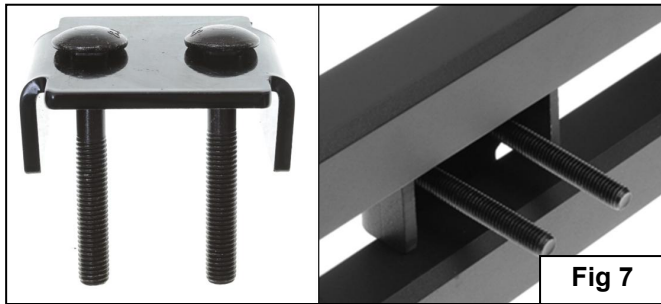
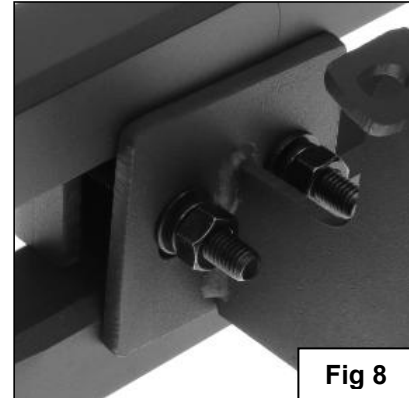

Fig 7
Fig 8
5. Select the Driver Side Bar. Slip (2) M10X1.5-75 Carriage Bolts into each 2-Hole Support Brackets, and insert the 2-Hole support bracket into the Driver Side Bar. (Fig 7). Carefully position the Bar onto the (3) Mounting Brackets. **IMPORTANT: Do not slide the Bar on the Brackets or damage to the finish may result.** Attach the Driver Side Bar to the Mounting Brackets with (2) M10 Hex Nuts, (2) M10 lock washers and (2) M10 flat washers, (Fig 8). Do not tighten hardware.